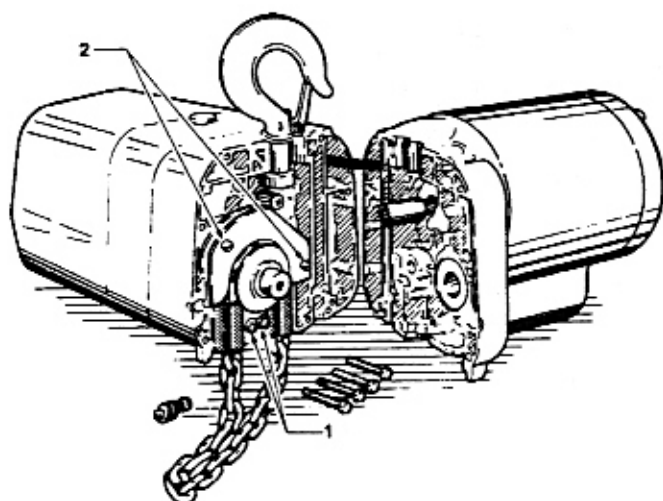

FIGURE 4-4. CHAIN REPLACEMENT
- b. With No Chain in Hoist Refer to Figure 4-4 and proceed as follows: